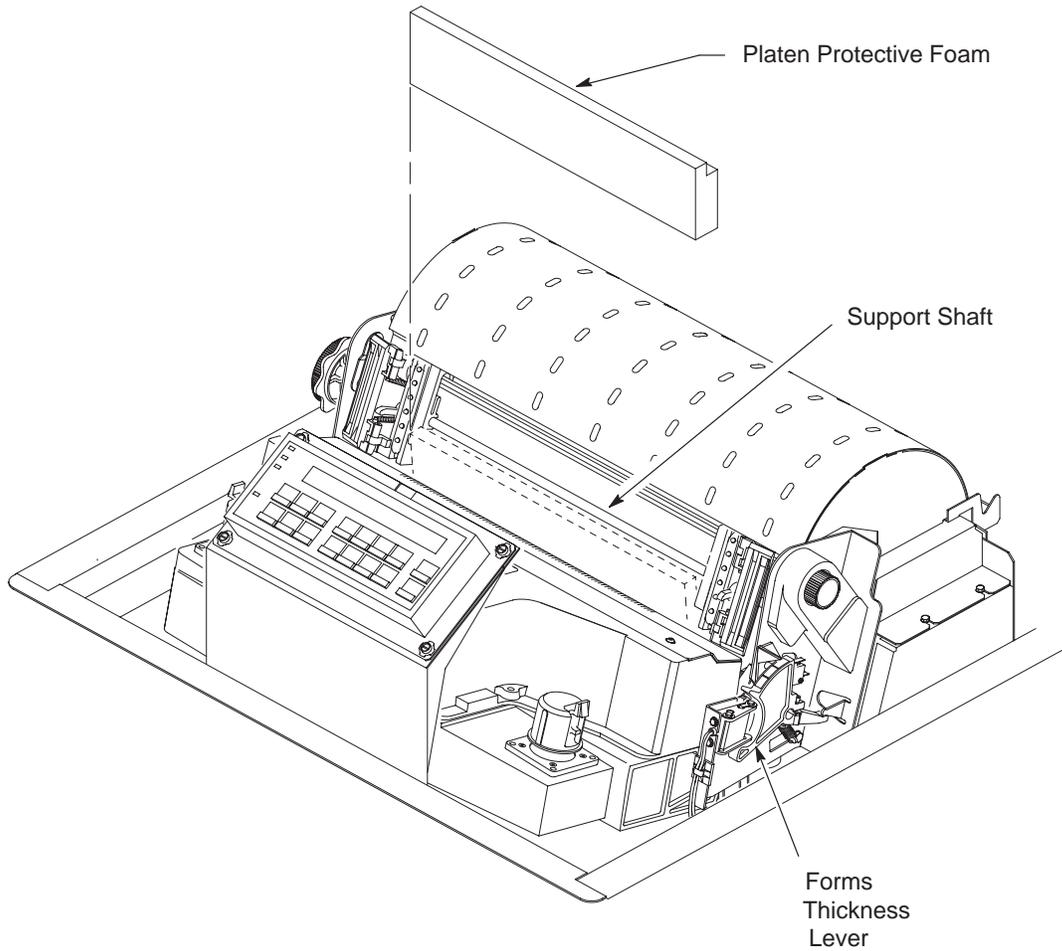

Figure 2–7. Removing the Platen Protective Foam
1. Rotate the forms thickness lever downward (to position “A”). (See Figure 2–7.)